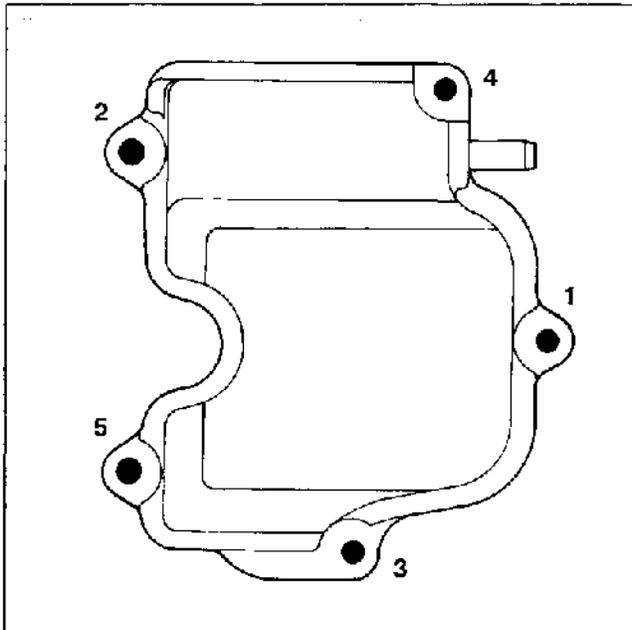

Figure 11-36. Valve Cover Torque Sequence.
4. Torque the screws in the sequence shown in Figure 11-36, as follows: